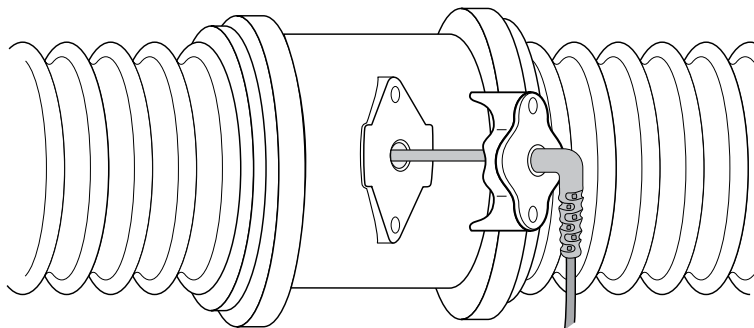

Figure 11. Warming unit hose wire junction.
7. Remove the 2 screws on the collar at the wire junction on the hose, and pull the wire out through the hose hole (see Figure 11).